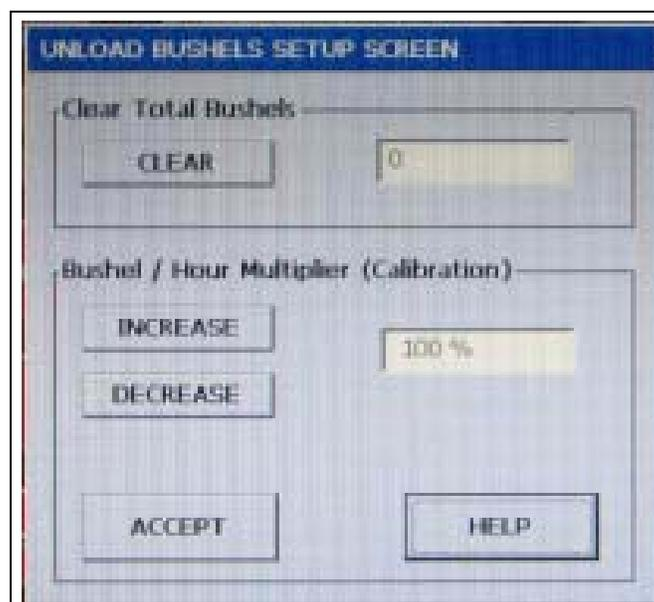

Figure 6J
9. **BPH calibration:** Touching the BPH Calibration button will display the Unload Bushels Setup screen. (See Figure 6J.) As you can see the bushel counter can be cleared by touching the CLEAR button. However if the bushel counter is out of calibration it can be calibrated by touching the INCREASE and DECREASE buttons.